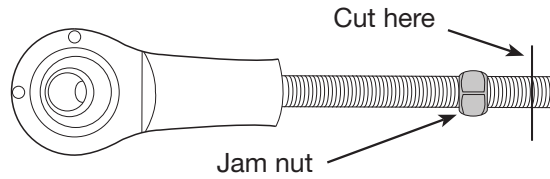

fig. 28
- Before cutting the rod, thread the jam nut back on the rod. Use the nut to deburr the rod end. (fig. 28).